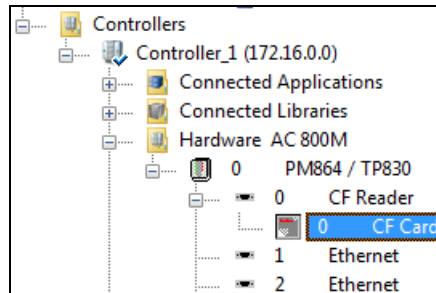

Figure 81. The Controllers item expanded and the CF Card connected to the CF Reader item.
1. Expand the **Controllers** item until you reach the **CF Reader** (or **SD Reader**) item (see Figure 81).